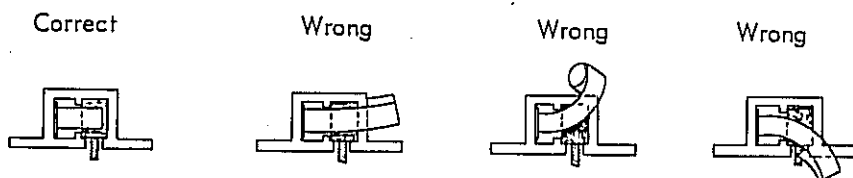

Figure 4
3. Using a sharp knife, cut only one of the CODE wires in the Remote Receiver. DO NOT CUT WIRES NUMBER 8 OR NUMBER 9. See Figure 4.
5. Slide the Security Code Switch whose number corresponds to the CODE wire in the remote receiver. (Fig.4). Use ballpoint pen or small screwdriver. Slide firmly to "OFF" or down position. For example, if CODE wire number 1 of the Remote Receiver is cut, then slide DOWN or to the OFF position switch number 1 in the Three Button Transmitter. Do not change 8 or 9.